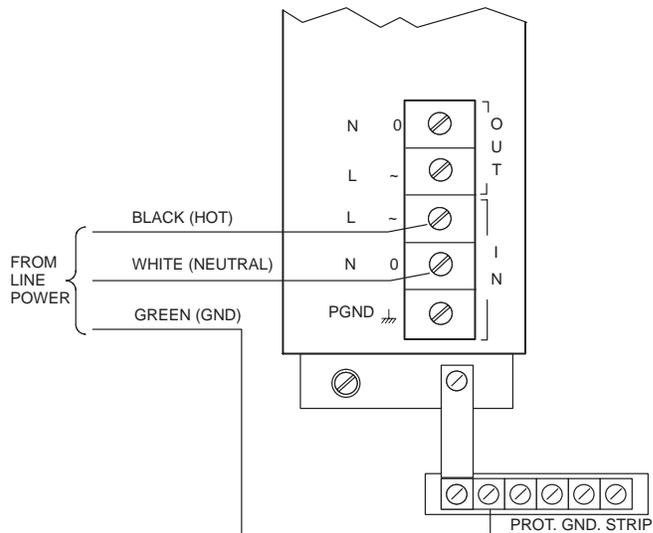

Figure 2. Power Supply TB Layout
- (1) The RTU power supply operating voltage is printed on the power supply front panel above the TB. Make sure that this voltage matches your line voltage.
- (2) Remove plastic cover from the power supply TB. Connect the power wiring according to Figure 2.